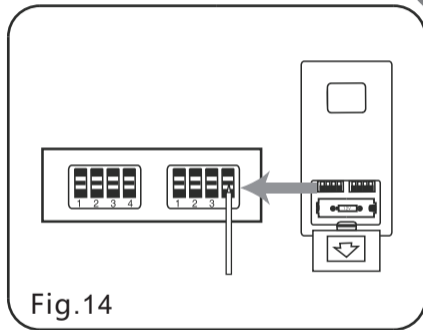

Fig.14
Step 3: If your outlet box has a **GROUND** wire (Green or Bare Copper) connect this wire to the Hanger Ball and Hanger Bracket Ground wires. If your outlet box does not have a Ground Wire, then connect the Hanger Ball and Hanger Bracket Ground Wires together. Secure wire connection with the plastic wire nut provided. (Fig. 14)